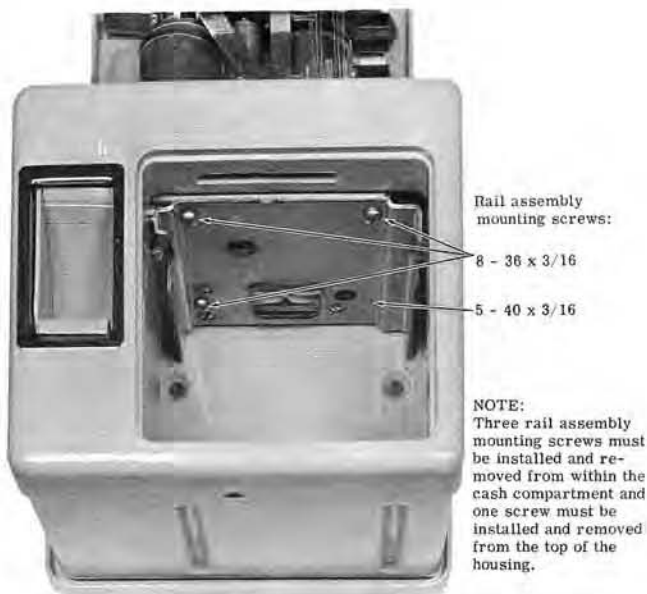

Figure 1.
(3) Using an offset screwdriver, remove the three screws within the cash compartment that secure the rail assembly to the lower housing (see Fig. 1); remove the fourth rail assembly mounting screw from the top of the lower housing. Remove assembly from cash compartment.
- (8) Place the rail assembly in position (see Fig.1) and install mounting screws. Use an offset screwdriver to install the three screws within the cash compartment; to install screw from top of housing, attach screw to screwdriver as in step (7).
- (9) Replace dust cover and dust cover clip; install cash box; install and lock cash compartment cover and upper housing.